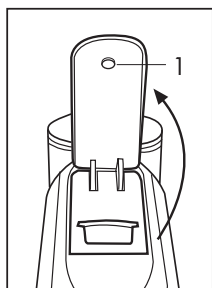
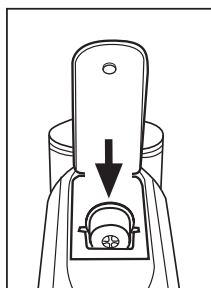

Fig. 6
Fig. 7
- Lift the control lever (1) completely (**Fig. 6**) and insert a capsule in the space provided. (**Fig. 7**)